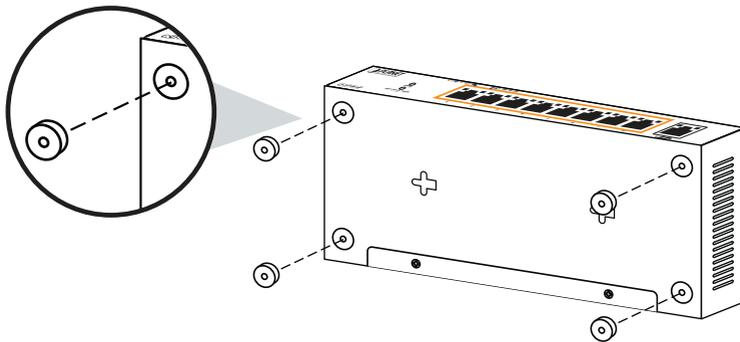

Figure 3-2: Installation of PoE Ethernet Switch Magnets
- Step 2:** Use 4 screws from the package to secure the magnets to the PoE Ethernet Switch, as shown in Figure 3-2.